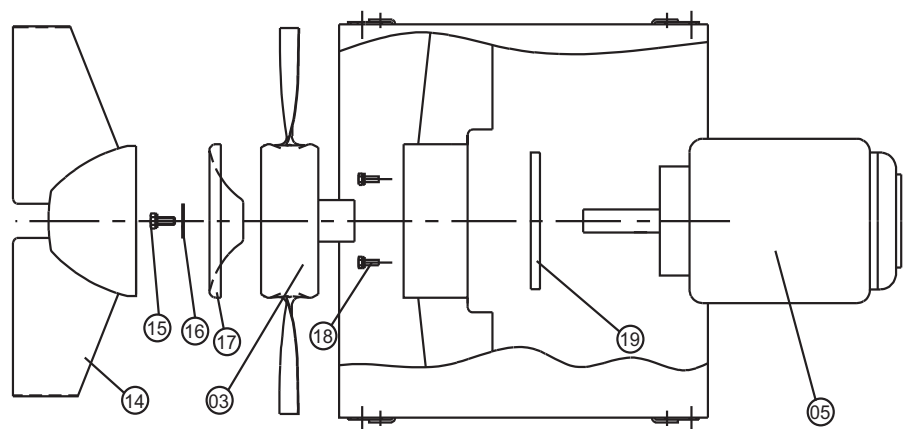

Figure 3. Dismounting/Mounting of motor
- 4 For type ARR: Remove screws in guide plates of centre fairing and pull out centre fairing figure 3, item 14.
- 5 Remove centre screw of impeller item 15 and centre disc figure 3, item 16.
- 6 For type AUR: Remove hub cover figure 3, item 17.
- 7 Dismount impeller figure 3, item 03 by means of a puller fastened in the two threaded holes of the hub boss.
- 8 Remove 4 set screws figure 3, item 18.
- 9 Dismount motor item 05 and motor flange figure 3, item 19. Note the placing of the motor prior to dismounting. When dismounting and disassembling the fan be careful not to expose the individual parts to shocks etc. likely to damage the motor bearings or other fan components.
- 1 After servicing remount the motor figure 3, item 05, see that the motor flange item 19 is correctly located and that the motor shaft is concentrically placed in the fan casing before tightening the set screws item 18.
- 2 Mount the impeller figure 3, item 03 on the motor shaft by means of screws fastened in the threaded hole of the motor shaft. Fix the impeller hub to rest against the motor shaft collar. Check that the blade clearance is the same throughout the circumference of the casing. If this is not the case, adjust the motor location in the mounting frame arrangement.
- 3 Mount centre screw figure 3, item 15, centre disc item 16 and for type AUR: hub cover item 17.
- 4 Type ARR: Mount the centre fairing figure 3, item 14.